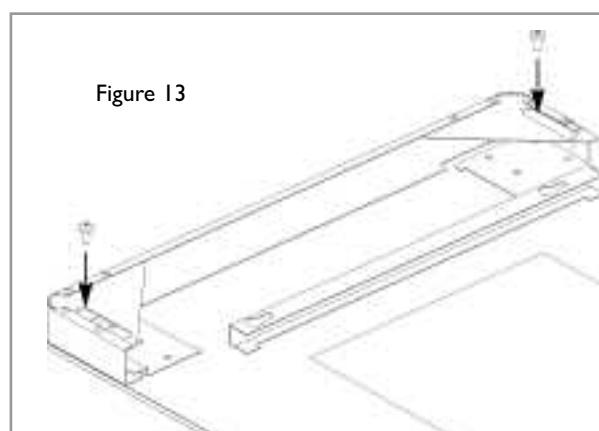

Figure 13
3. Ensure the sides are neatly aligned with the glass and secure the sides using two M6 screws for each side as shown in figure 13. **Do not overtighten the screws.**